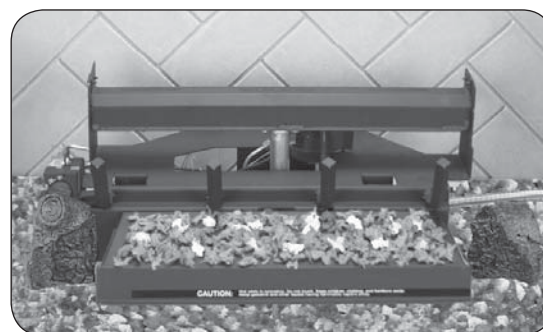

Fig. 22-4 Place bryte coals
2. Separate the bryte coals into small pieces, and evenly place them over the glowing embers as shown in Fig. 22-4.